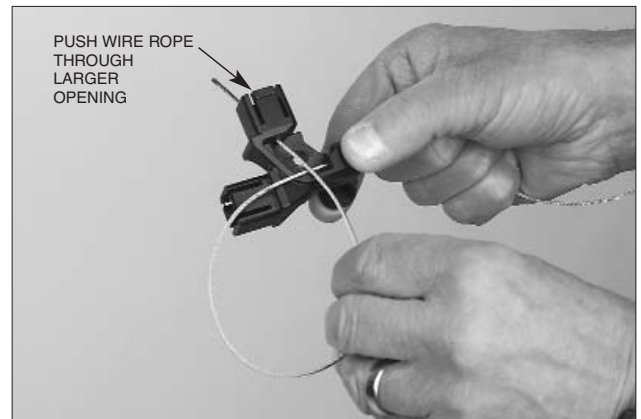

FIGURE 66
- Pull slack, make a loop and insert the rope through the larger opening in the bearing area. See Figure 66.